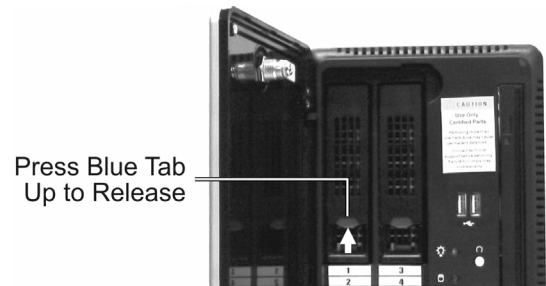

Figure: 3
3. Remove hard drive 1 from the original chassis by pressing up on the blue tab to release the hard drive (see Figure 3).